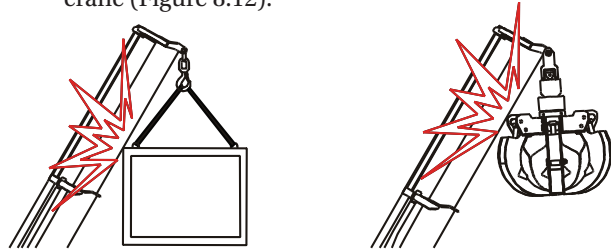

Figure 8.12: Never allow the load or attachments to come in contact with the crane
- Do not move the load or attachments in such a way that they can make contact with any portion of the crane (Figure 8.12).